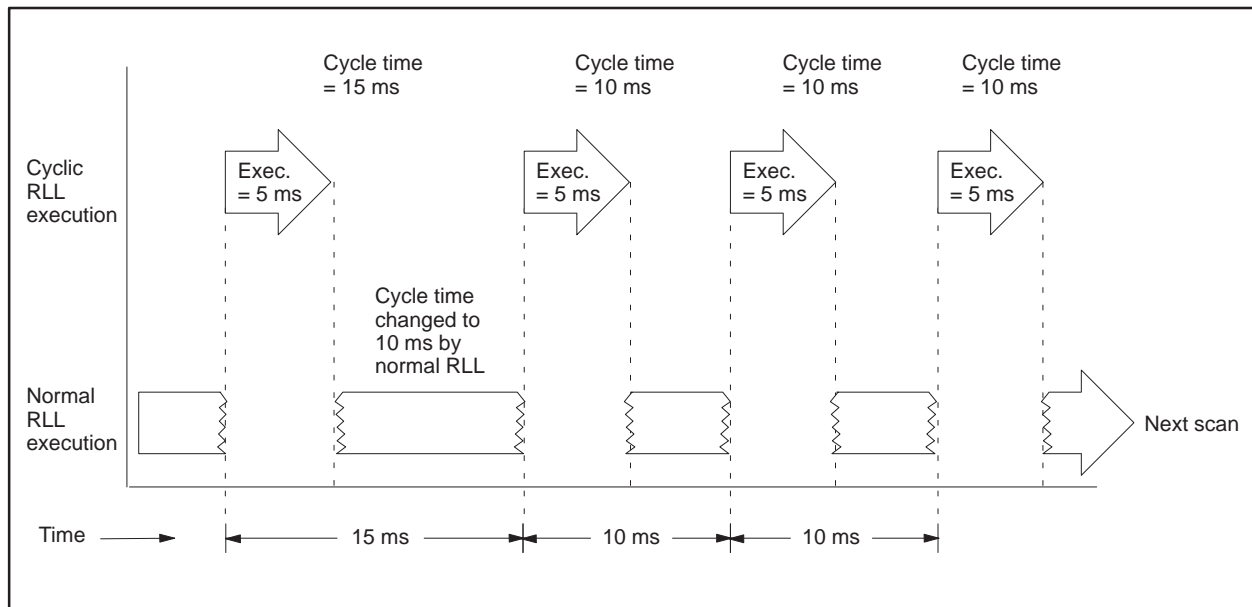

Figure 5-12 When Cycle Time Changes Take Effect
- Cycle time can be a constant or a variable. As a variable, the cycle time can be changed by logic in the main program, logic in the cyclic RLL task itself, or by other processes. The new cycle time does not take effect until the current execution of the cyclic RLL task has completed. See the example in Figure 5-12.